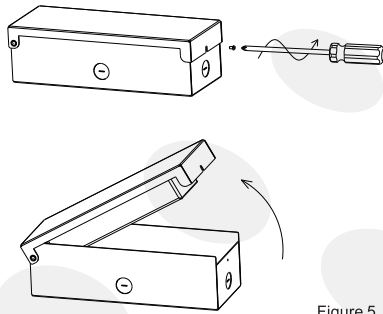

Figure 5
5. Take the driver box apart by screwdriver. (Figure 5)